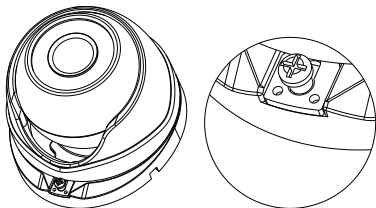

Figure 2-9 Tighten the Screw
7. Tighten the set screw as shown in Figure 2-9.